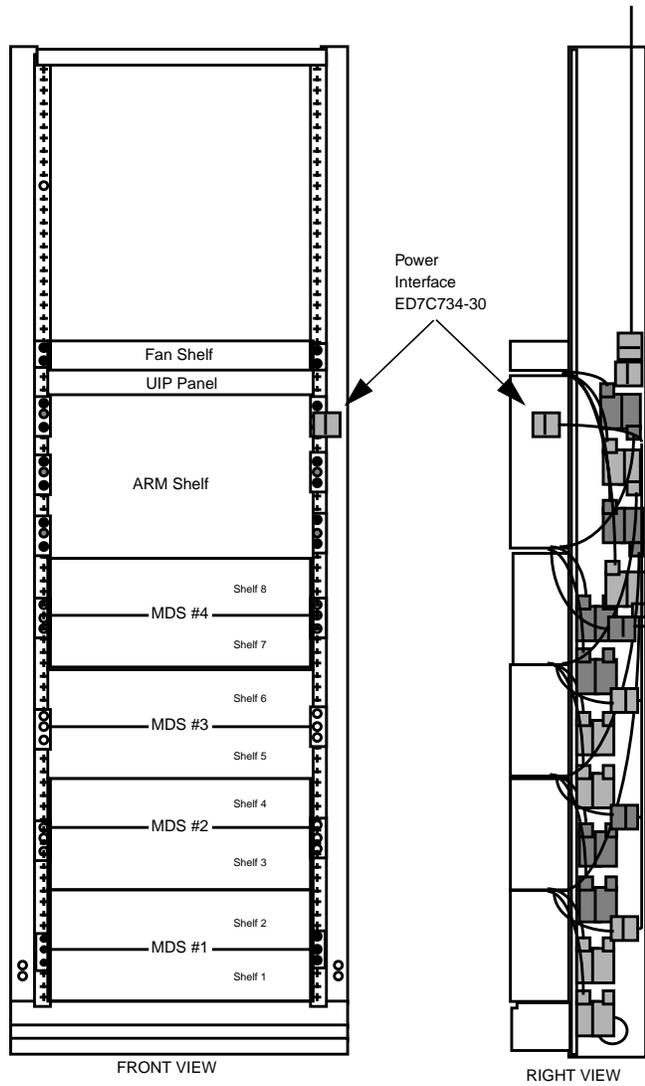

Figure 3-10. Power Interface Location
Step 2: Refer to the Figure 3-10 and connect the Power Interface dangler cable assembly as follows in the right side cable duct: